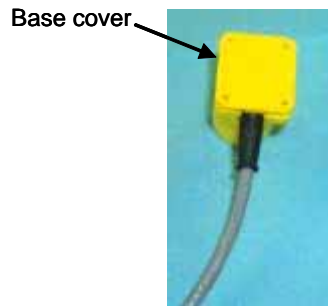

Figure 121. Base cover on housing.
6. Place the plastic base cover on the geophone (figure 121).